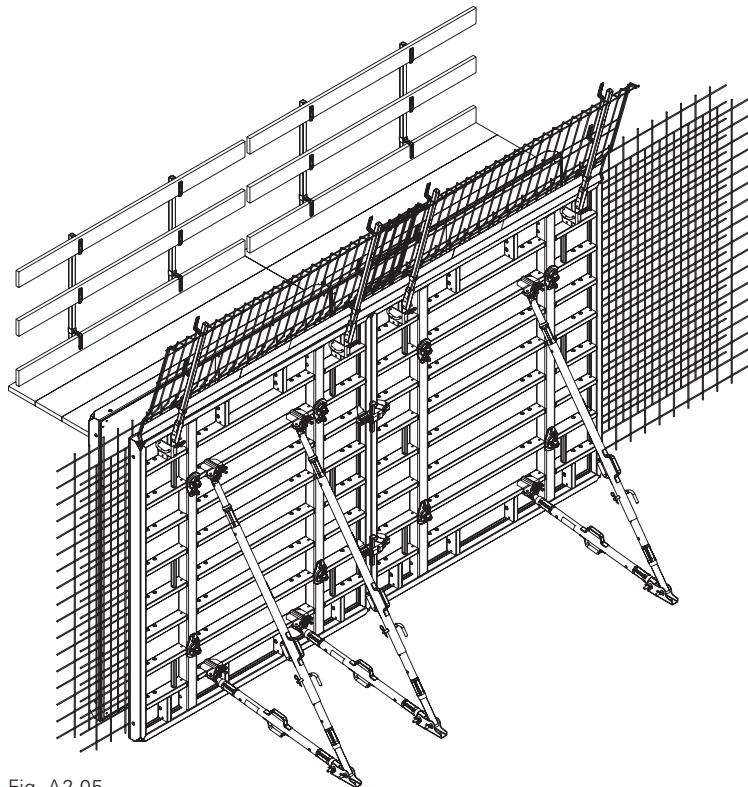

Fig. A2.05
- Second panel onwards: 1 push-pull prop. (Fig. A2.05)
(Fig. A2.05)